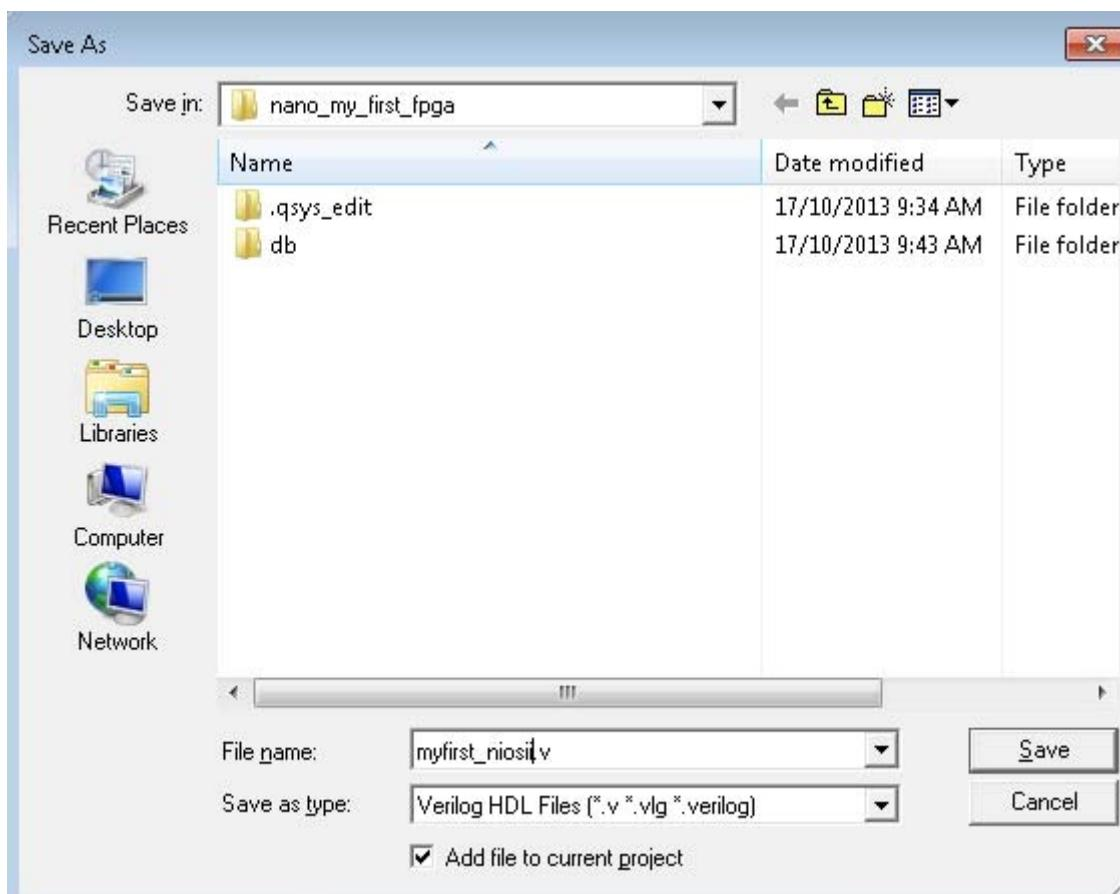

Figure 1-57 Save Verilog file
35. Choose **Save** Icon in the tool bar. There will appear a window as shown in Figure 1-57. Click **Save**.